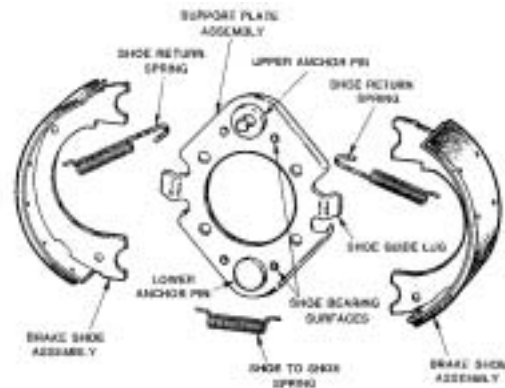

Figure 2—Park Brake Shoes
1. Remove shoe return springs from upper anchor pin. **Figure 2.**
1. Lay the new brake shoes into the support plate. **Figure 2.**